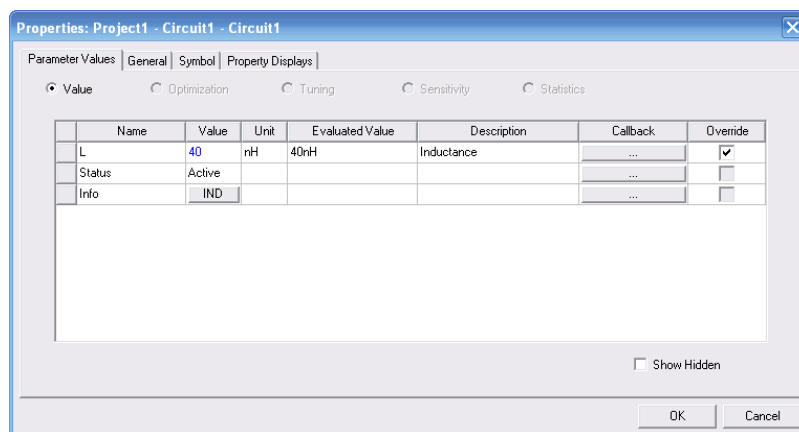

Figure 5. Editing the inductor's value.
11. Proper values must be entered for each component. Double click on the inductor value to bring up the component editing menu. Change the inductor to 40 nH as shown in Fig.5.